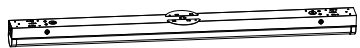

Figure 2
Step2. Clamp the disc from the accessory kit to the lamp (this step can be omitted if the light fixture can completely cover the junction box on the wall) (figure 2)